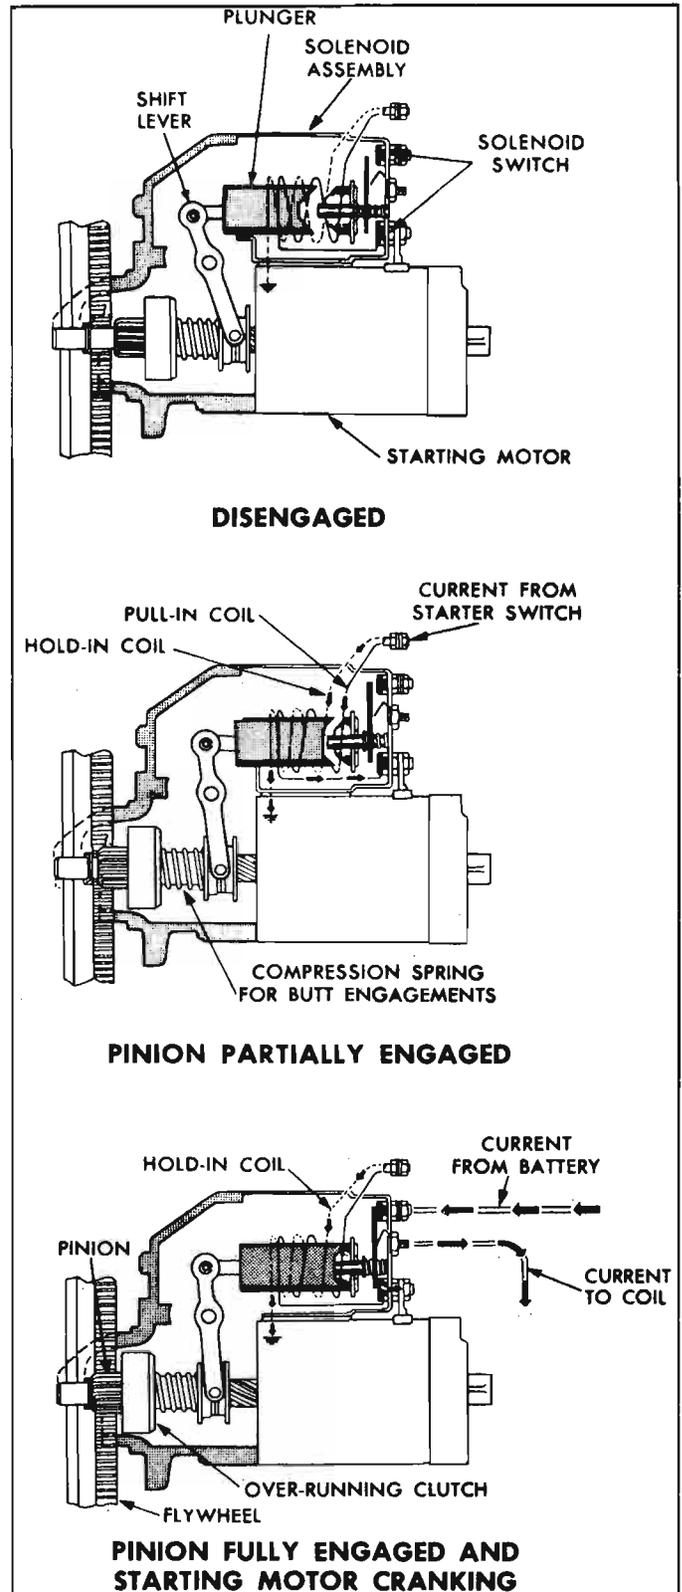

Fig. 8-37—Solenoid Operation
When the solenoid fails to pull in, the trouble may be due to excessive voltage drop in the solenoid control circuit. To check for this condition, close the starting switch and measure the voltage drop between the BATTERY terminal of the solenoid and the SWITCH (S) terminal of the solenoid. (fig. 8-37).